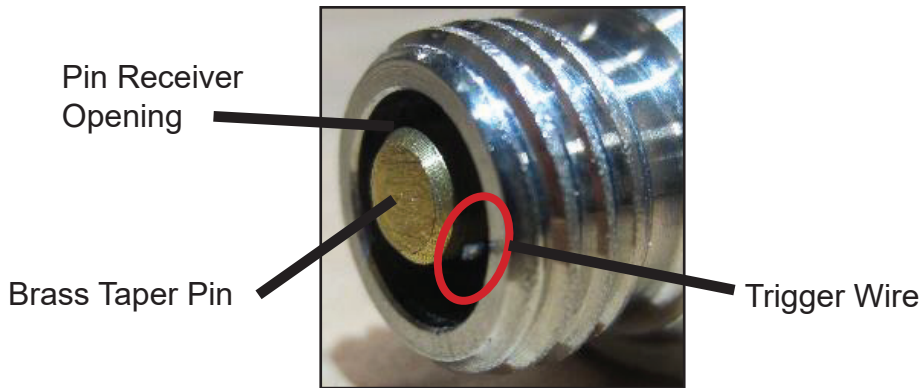

Figure 36: The brass taper pin and trigger wire (circled) must be visible in the receiver opening.
- b. If the pin and the wire are visible or can be felt in place as shown in Figure 36, continue to Step 3. Ensure the brass taper pin is flush against the pin receiver opening, and that the wire is cut flush. If the taper pin is not flush, use a slide wrench or hammer to lightly push the taper pin flush. Cut any exposed wire so that it is flush with the pin receiver.